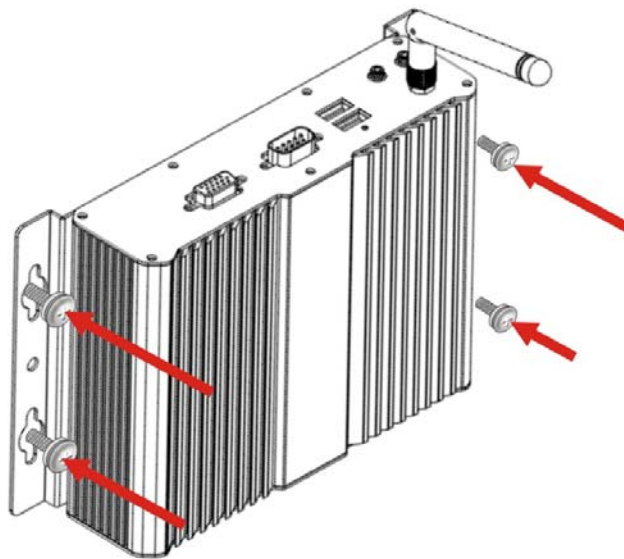

Figure 4-6: Wall-mounting Bracket
- Step 5:** Secure the IBX-300BC to the wall by inserting the retention screws into the four pilot holes and tightening them (**Figure 4-6**).